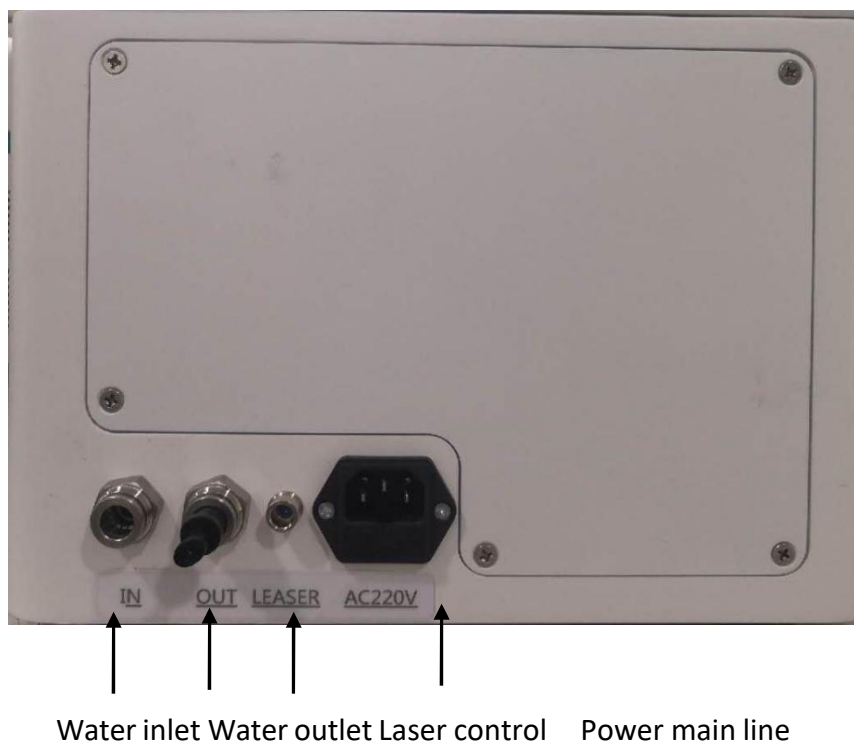
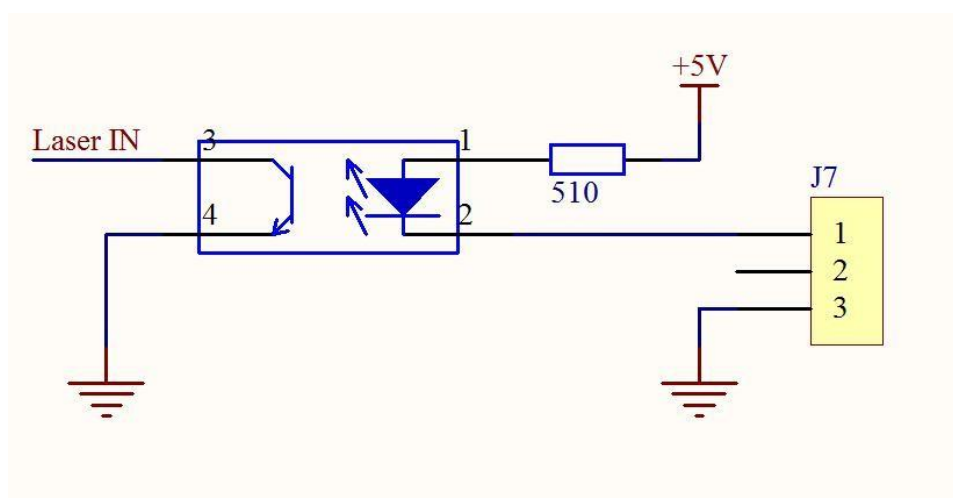

Figure 4-1
Figure 4-2 (inside the laser control signal)
2. Insert the power cable correctly into the AC220V jack and connect it to the mains (see Figure 4-1).
3. Connect the foot switch to the LEASER jack correctly (see Figure 4-1). Internal schematic diagram of the control signal (Figure 4-2)
4. Insert the dispensed hose into the “IN” socket of the machine and place the other end in the spare purified water to prepare for water injection (see Figure 4-1).